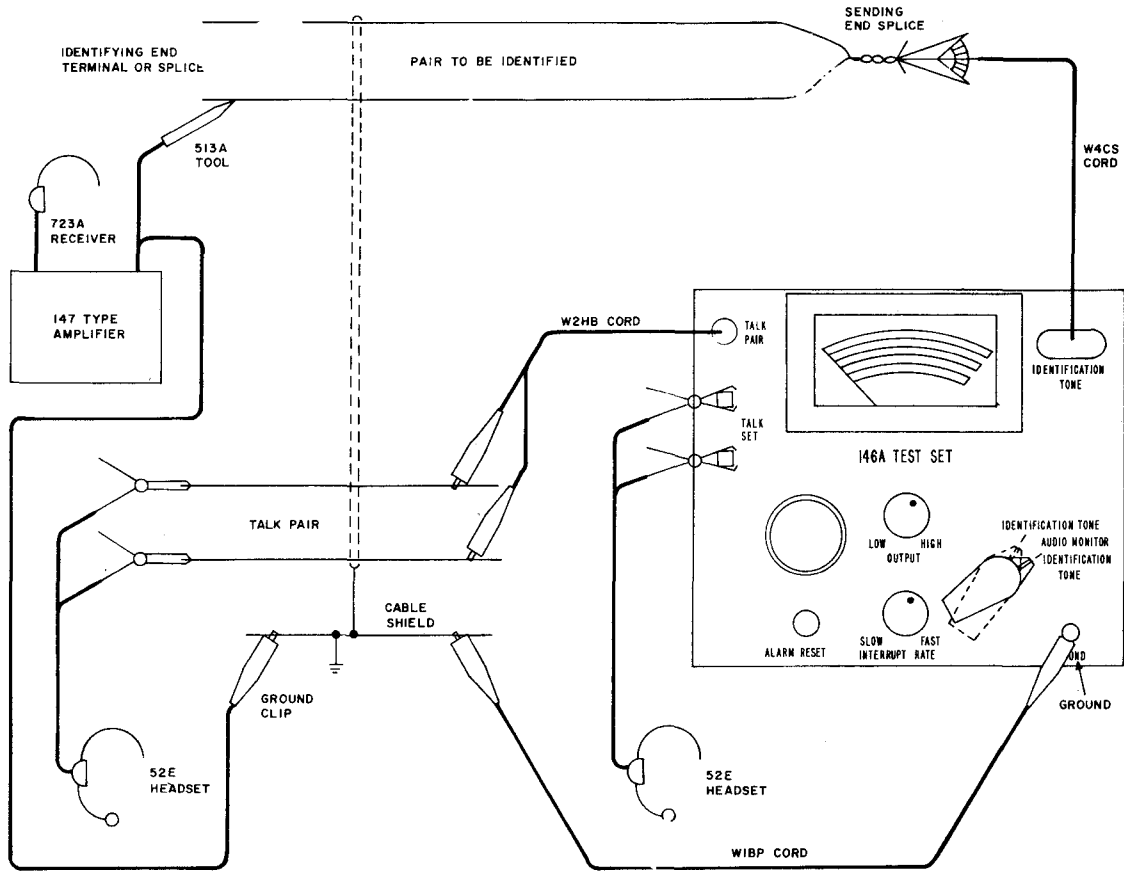

Fig. 10—Wire Identification in Dead Cable
- 5.17** Referring to Fig. 10, connect the test set GROUND to the cable shield using the W1BP cord. Set the FUNCTION switch to AUTO MONITOR IDENTIFICATION TONE. Plug the W4CS cord into the IDENTIFICATION TONE jack. Adjust the OUTPUT control to HIGH. Attach the W4CS cord to the "Tip" and "Ring" of the first pair to be identified. A sound from the alarm device indicates that a proper connection to the pair has been made.